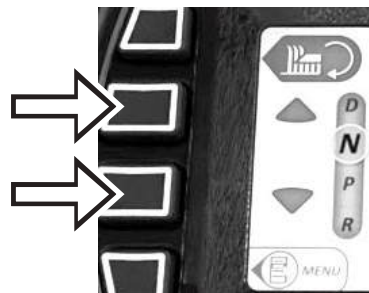

Fig. 14B - Setting drive mode
3. On the display, select the drive mode required (Drive (D) or Reverse (R)) (Fig. 14B). The 'Drive start / stop' icon changes colour from grey to green.